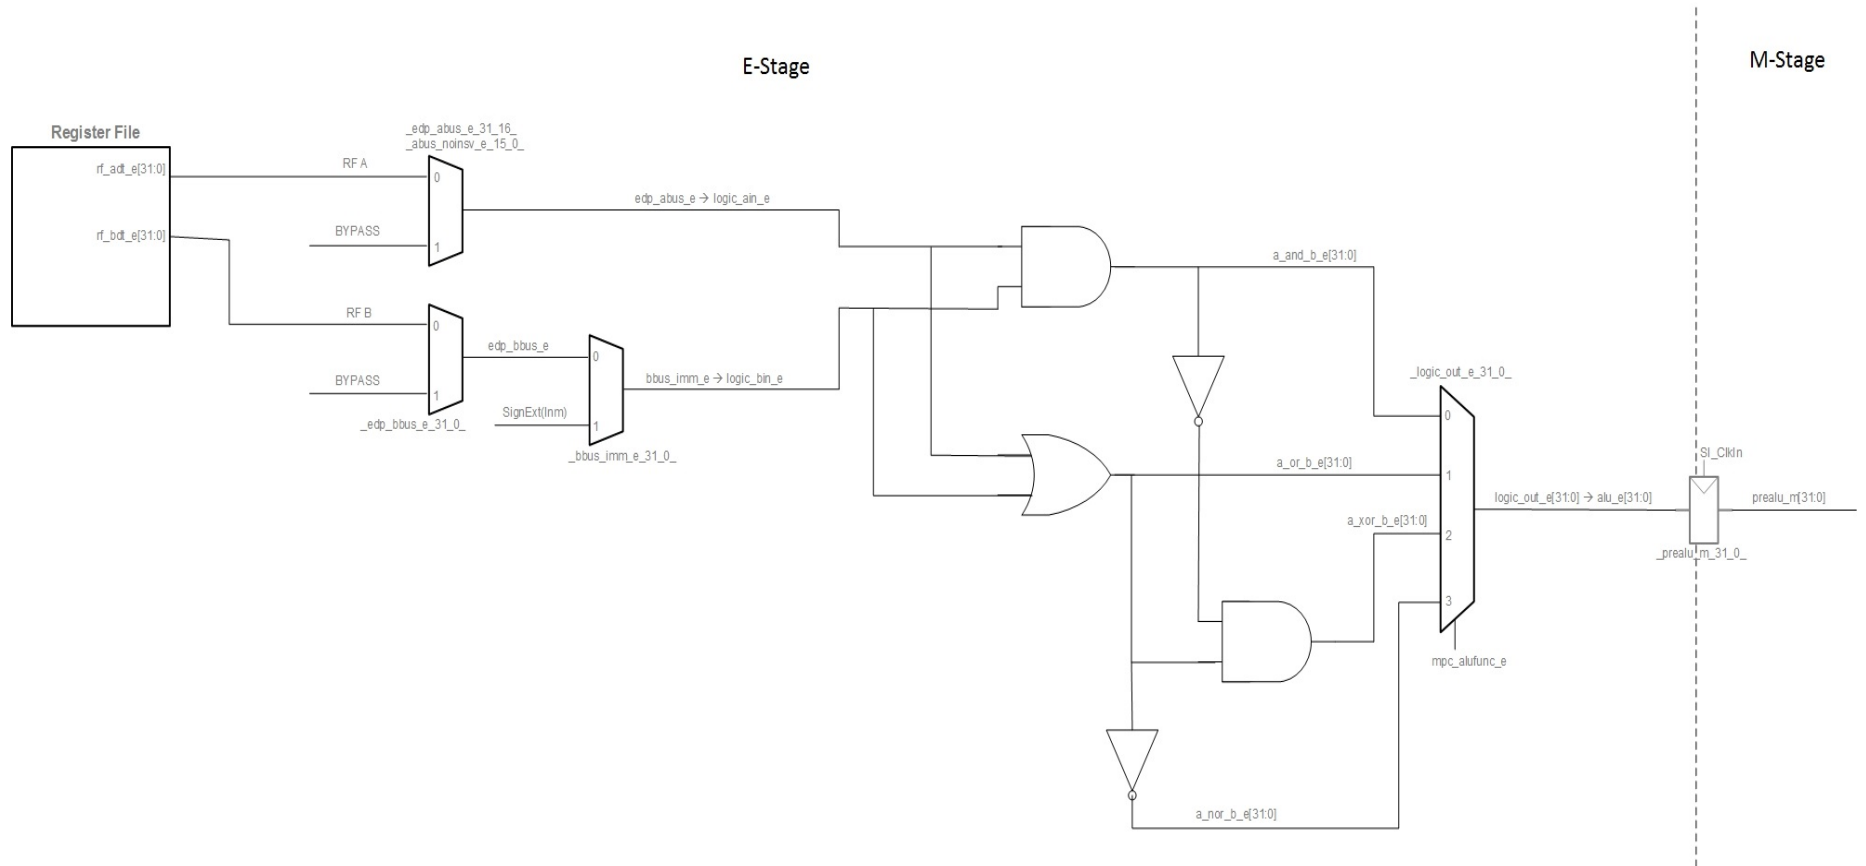

FIGURE 1. Original Logic Unit.
- Inclusion of the functionality for the new instruction in the processor. Figure 1 shows the original Logic Unit, while Figure 2 shows the modified Logic Unit after including support for the new instruction. All changes related to the new instruction are tagged with comment: *// NAND* in the soft-core. We must perform the following actions: